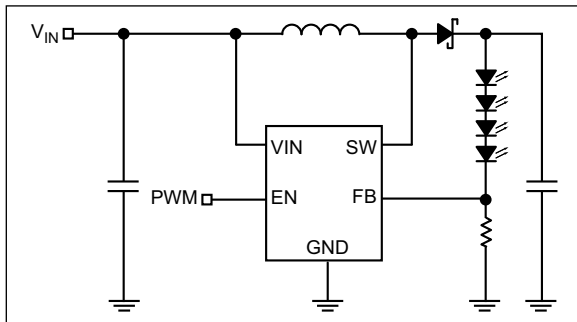

FIGURE 5-1: PWM Dimming Method
1. PWM dimming control is implemented by applying a PWM signal on EN pin as shown in Figure 5-1. The MIC2287 is turned on and off by the PWM signal. With this method, the LEDs operate with either zero or full current. The average LED current is increased proportionally to the duty cycle of the PWM signal. This technique has high efficiency because the IC and the LEDs consume no current during the off cycle of the PWM signal. Typical PWM frequency should be between 100 Hz and 10 kHz.